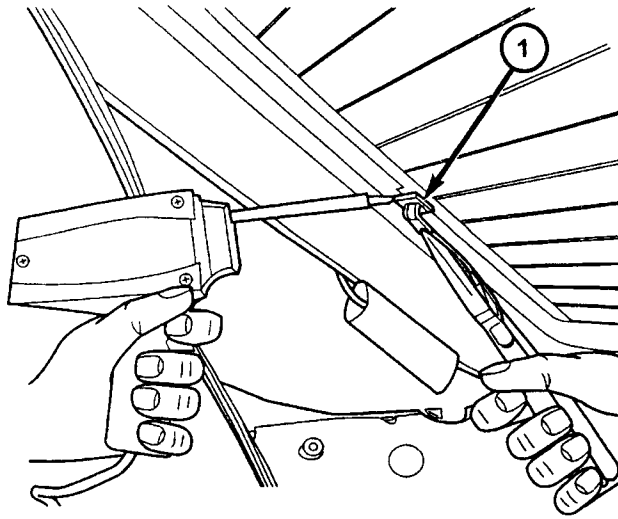

Fig. 2 CLIP REMOVAL
4. Apply heat with a solder gun to the portion of the terminal clip on the glass until the solder starts to flow, remove the clip then smooth the solder. Wait 5 minutes for the glass to cool before proceeding, (Fig. 2).